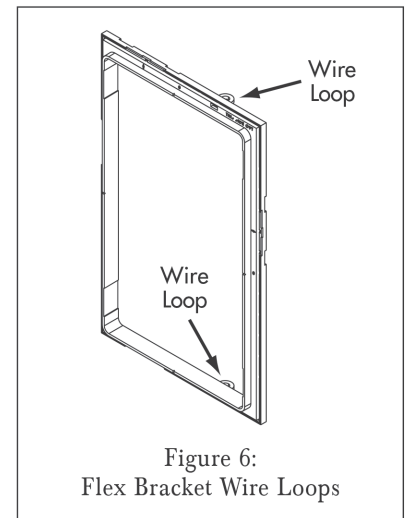

Figure 6:
7. Feed the speaker wire through one of the Flex Bracket's two wire loops. This will keep the wire readily accessible to speaker installation personnel after the drywall is installed. (See *Figure 6*.)